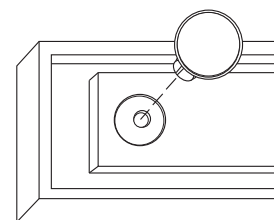

FIG. 2
3. Press new PresLock into holder (FIG. 2)